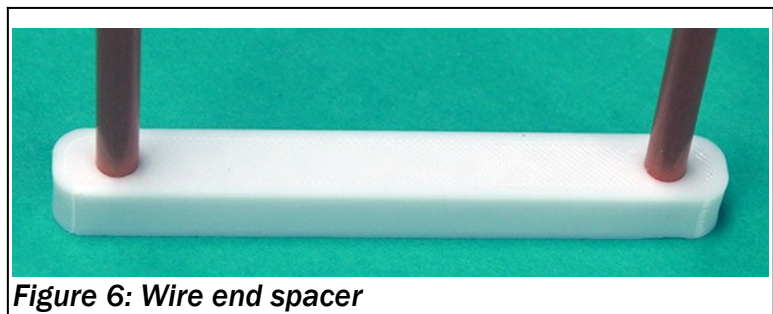

Figure 6: Wire end spacer
b) Cut four short pegs for the wire end spacer (Figure 6). These can be about $\frac{3}{4}$ " long to keep the 3D-printed spacer close to the wires.